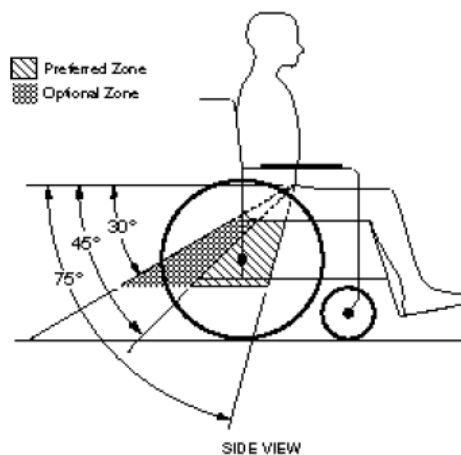

Figure 8 - Zones of preferred and optional angles for pelvic belts.
- 3) The pelvic belt should be worn low across the front of the pelvis, so that the angle of the pelvic belt is within the preferred zone of 45° to 75° to the horizontal, or the optional zone of 30° to 45° to the horizontal as shown in figure 8.